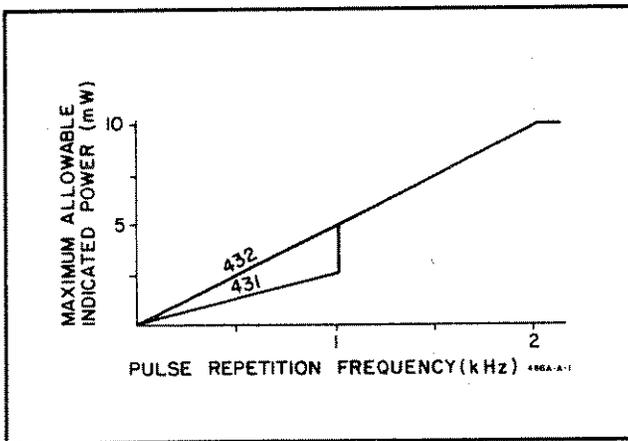

Figure 1. Maximum Power Meter Reading versus PRF for Pulses Shorter than 250  $\mu$ sec.
**Pulse Energy and Peak Power.** In measuring pulse power, there is a limit on the energy per pulse which may be applied to the mount. For a pulse repetition frequency (PRF) less than 1 kHz, energy per pulse can be up to 2.5 Watt- $\mu$ sec; for a PRF 1 kHz and above, up to 4 Watt- $\mu$ sec (for lack of space, only the lower limit is shown on the mount name plate). However, this energy limit applies only to pulses shorter than 250  $\mu$ sec. In Figure 1, the pulse energy limit is translated into a maximum power-meter reading for any PRF. For pulses in this category, allowable peak power is inversely proportional to pulse width but should never exceed 100 Watts.